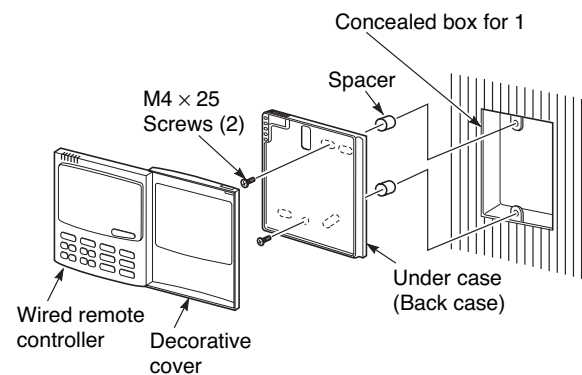

Fig. 6-3
- (2) Attach the back case with the 2 small screws provided. Using a screwdriver, push open the cut-outs on the back case. These holes are for screws. Use the spacers and take care not to tighten the screws excessively. If the back case will not seat well, cut the spacers to a suitable thickness. (Fig. 6-3)
- (3) Connect the remote controller wiring (2 wires) correctly to the corresponding terminals in the electrical component box of the indoor unit.